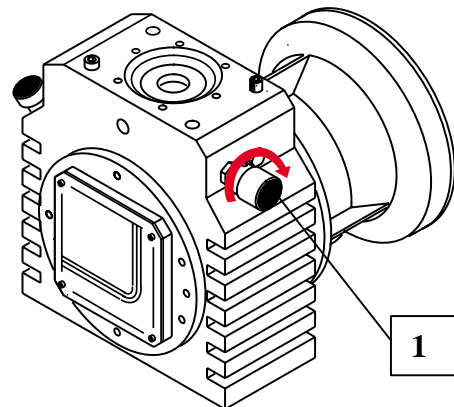

Fig. 6
5.1.3 Pressure regulator (1 Fig. 6)